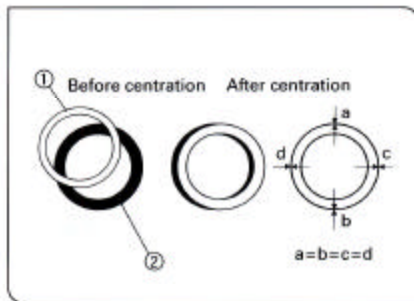

Fig. 31
3 Using the Phase Contrast Attachment (Figs. 31 & 32)
4. Rotate the CT-5's upper lens assembly so that the bright ring ① (light annulus in the condenser) and the dark ring ② (phase annulus in the objective) come into focus. (Fig. 31)
5. Rotate the two light annulus centering knobs ③ until the light annulus and phase annulus are concentric and superimposed. (Figs. 31 & 32)